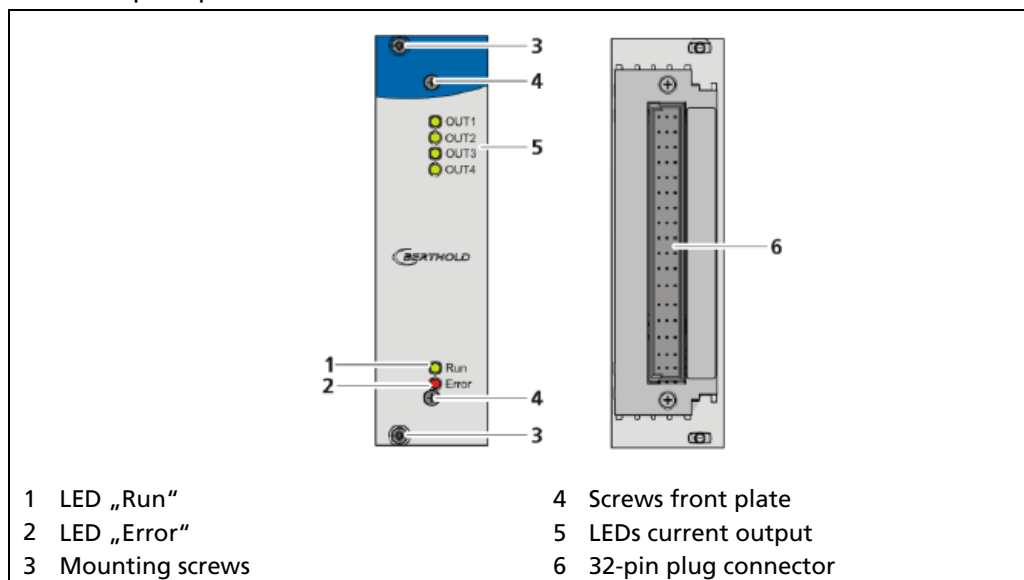

Fig. 7 Front and rear view Current Output/HART module
- The LED "Run" (Fig. 7, item 1) lights up green when the device is in operation and fault-free.
- The LED "Error" (Fig. 7, item 2) lights up red, if the module detects an internal error.
- The individual LED of a current output (Fig. 7, item 5) lights up green when the output current is in the range of 3.8 ... 20.5 mA.
- The individual LED of a current output (Fig. 7, item 5) remains off when no function is assigned to this current output.
- The individual LED of a current output (Fig. 7, item 5) flashes red if there is an error current.
- The individual LED of a current output (Fig. 7, item 5) and the LED "Error" (Fig. 7, item 2) light up red when the module detects an internal error on the corresponding current output or when the individual current output loop is open.